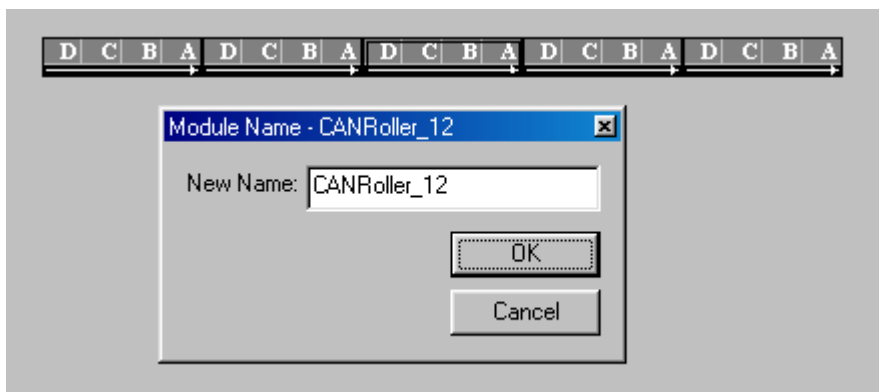

Fig. 4.22
- Click on **Rename** item to open the dialog box shown in Fig. 4.22.